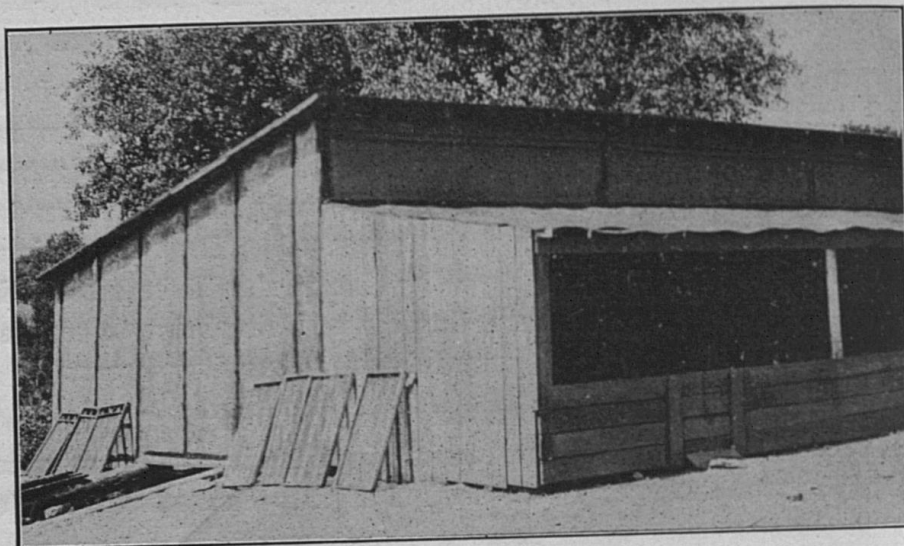

Fig. 1. A shallow shed-roof house which has been remodeled into a half-monitor house. Note entrance to incubator cellar.
*Fresh Air.* Ventilation is essential in the poultry house. A poorly ventilated house is damp, close and unhealthful for fowls. Ample ventilation is necessary to remove the moisture which the fowls have exhaled, and also odors and gases. In order to provide proper ventilation the house should be tightly constructed on three sides with a part of the front open to admit fresh air. To allow for increased ventilation during the hot summer nights the back and top of the roosting quarters should be ceiled and a drop ventilator placed under the eaves. (See figure 1 on page 6.) The cloth curtains in the front allow fresh air to pass thru and yet prevent draft. For maximum ventilation in the summer the curtains are opened and the windows taken out.
The square building always costs less than one with the same floor space of other dimensions. The deeper the house is, the warmer will be the roosting quarters. By depth is meant the distance from the front to back. For this reason a 16-foot to 20-foot depth is preferable. A poultry house which is 20 feet long or longer should never be less than 16 feet deep. A shallow house may be improved by adding in front a scratching shed with the roof sloped forward. This will give the remodeled house the appearance of the half monitor house shown in figure 1.